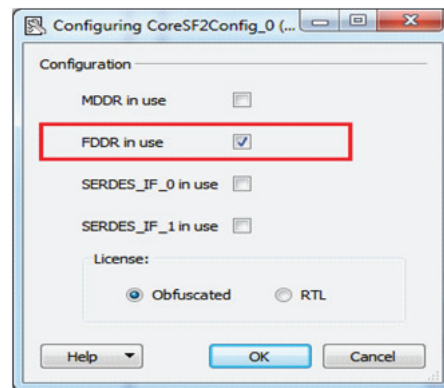

Figure 2-22 • CoreSF2Config IP Configuration
9. Instantiate CoreSF2Config in the SmartDesign canvas and configure for FDDR, as shown in Figure 2-22. Make the FIC_2 and FDDR APB interface connections to CoreSF2Config.